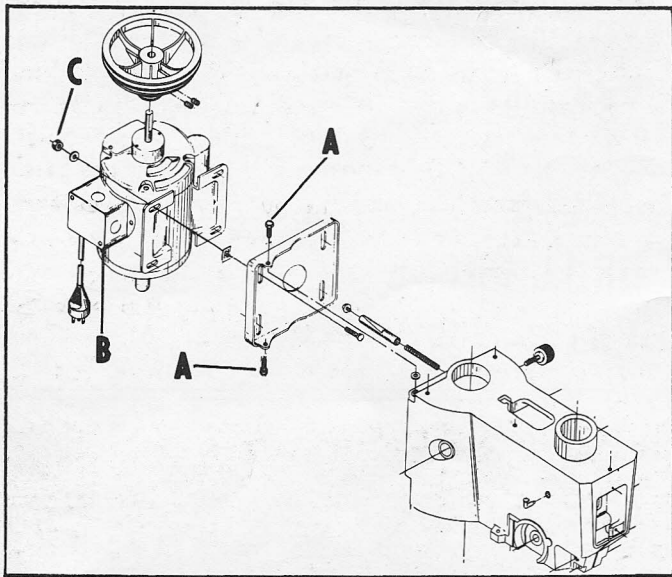

Fig. 2.
2. Remove the two hexagon head cap screws (A) Fig. 2, and remove motor plate from the drill press head.
3. Mount the motor to the motor plate. Junction box (B) Fig. 2, should be on left hand side as shown.
4. Tighten finger tight the four motor mounting nuts (C) Fig. 2, that fasten motor to motor plate.
5. Lift whole unit to the drill press head and replace the two hexagon head cap screws (A) Fig. 2.
7. Visually line up the motor so that it is in parallel alignment with the spindle. In most cases it will be necessary to raise the motor all the way and move it to the extreme right of head when looking from front of Drill Press. Tighten the four motor bolts (C) Fig. 2, and line up the motor pulley with the spindle pulley.